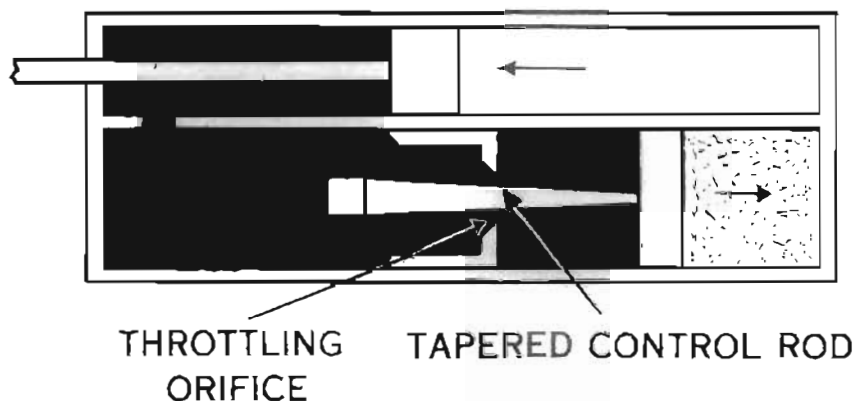

Figure 41
4. After passing through one-way valves, oil flows through throttling orifice and presses against diaphragm; diaphragm, in conjunction with floating piston, moves forward (fig. 41).